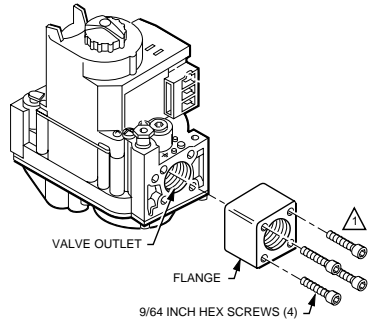

Fig. 2. Firmly fasten flange to valve, but do not overtighten screws.
4. With the O-ring facing the control, align the screw holes on the gas control with the holes in the flange. Insert and tighten the screws provided with the flange. See Fig. 2. Tighten the screws to 25 inch-pounds of torque to provide a gas-tight seal.